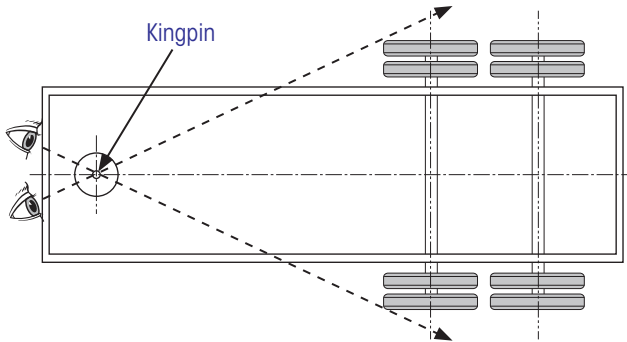

Figure 16: Checking for measurement obstructions
1. From a position at the front of the trailer (Figure 16), **sight** along a line under the trailer from the kingpin to each end of the front axle.